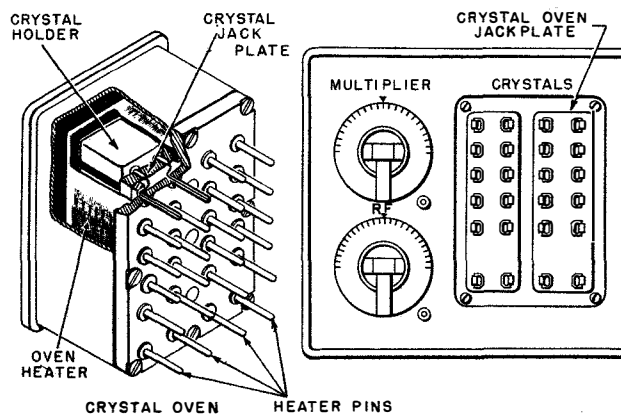

Figure 1-10. Crystal Oven CFT-40148, and Jack Plate
(3) CRYSTAL OVEN, NAVY TYPE CFT-40148.—The crystal oven is government-furnished and consists of a molded case, the separable base of which is fitted with 24 pins that fit into a jack plate in the selector housing of the receiver, as shown in Figure 1-10. A jack plate into which ten crystal holders may be plugged is provided inside the oven.